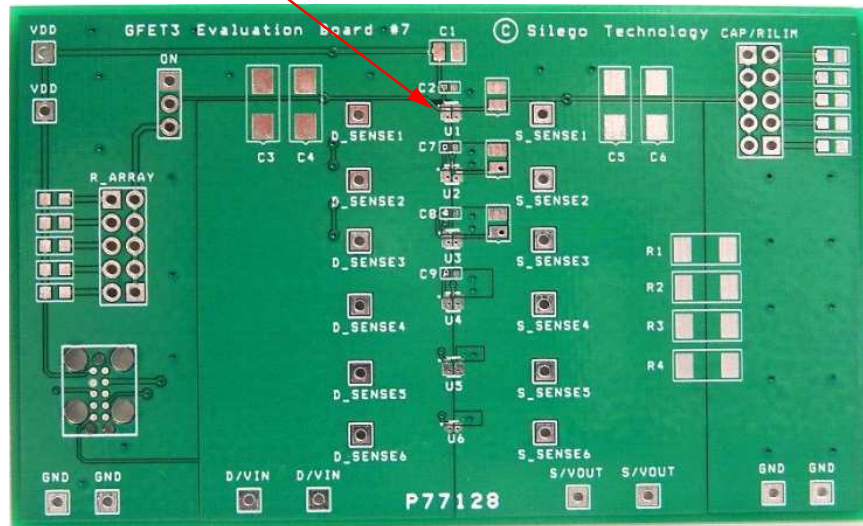

Figure 1. SLG59M1545V Evaluation Board.
2. Since the D and S pins dissipate most of the heat generated during high-load current operation, it is highly recommended to make power traces as short, direct, and wide as possible. A good practice is to make power traces with absolute minimum widths of 15 mils (0.381 mm) per Ampere. A representative layout, shown in Figure 1, illustrates proper techniques for heat to transfer as efficiently as possible out of the device;
A GreenFET Evaluation Board for SLG59M1545V is designed according to the statements above and is illustrated on Figure 1. Please note that evaluation board has D\_Sense and S\_Sense pads. They cannot carry high currents and dedicated only for RDSON evaluation.